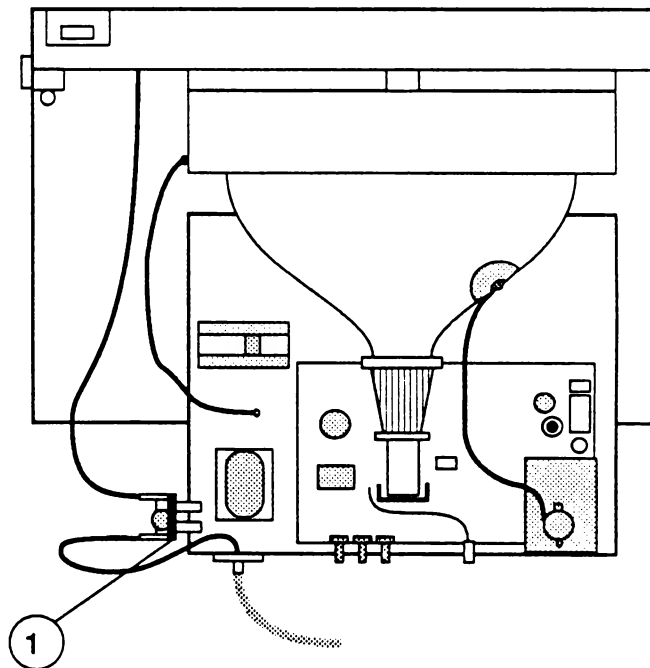

FIGURE 4
3. Locate the line filter board (Figure 4, #1).